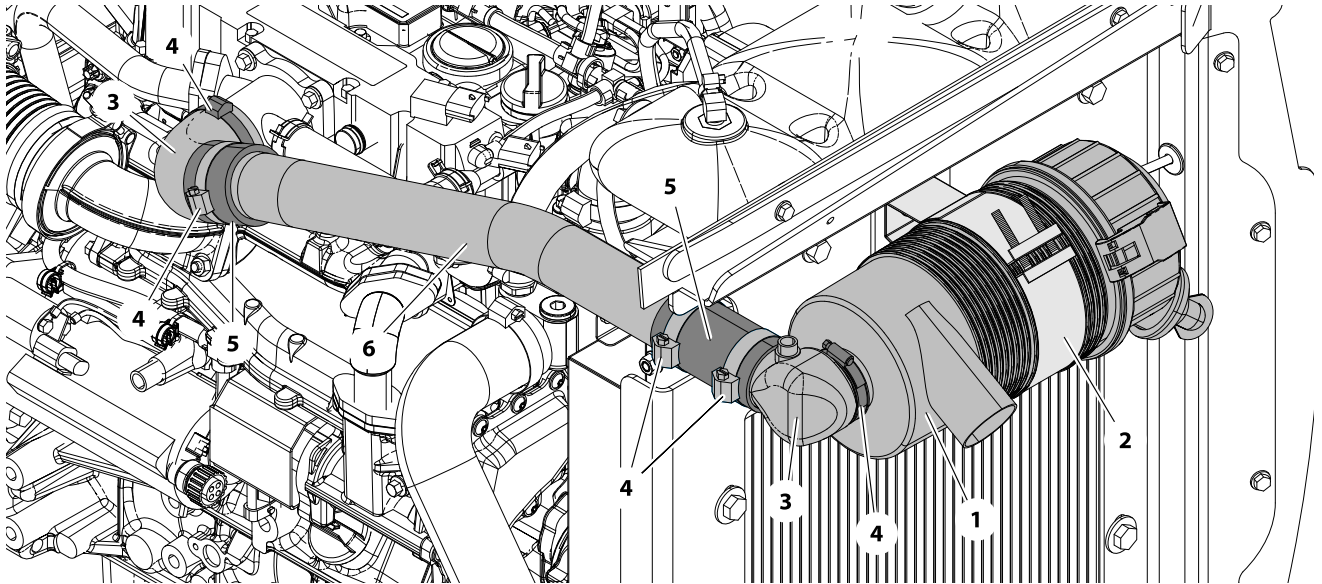

Figure 3-51. Air Cleaner System (Deutz Engine)
2. Remove exhaust system, air cleaner system and hydraulic pumps (refer to Figure 3-50., Figure 3-51. and Figure 3-66.).
3. Disconnect, cap and label all hoses connected to engine (1). Disconnect and label all electrical wiring connected to engine.
5. Remove the bolts (3) securing the motor to the rear engine mount (2).
6. Remove the bolts (5) and spacer tubes (6) securing the engine to the front engine mount (4).